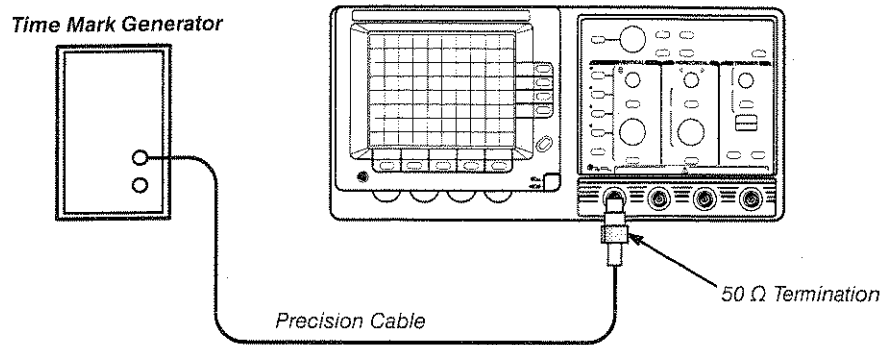

Figure 7-2: CRT Adjustments Calibration Setup
13. Connect the output of the time mark generator to the **CH 1** input as shown in Figure 7-2.